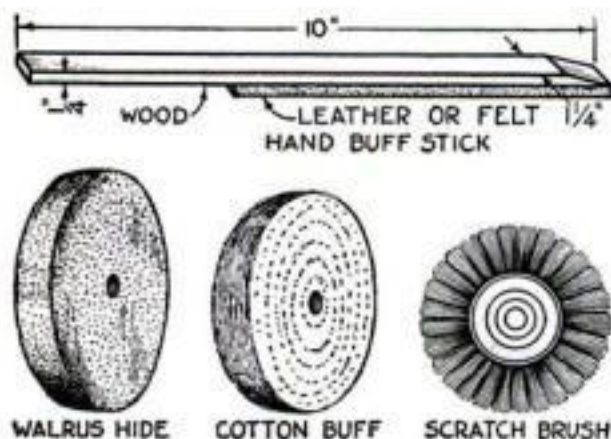

Fig. 5. How hand buff sticks are made, and three common types of wheels used for polishing.
*Machine polishing* requires the use of a polishing head, which is an essential part of the metal worker's shop equipment. There are polishing wheels and buffs (Fig. 5) of many kinds and shapes. Roughly, these may be divided into three classes: leather wheels for the first polishings, cotton and buff wheels for the final polishings, and brush wheels for scratch brush finishing.
The coffee table, Fig. 5, is a typical example of the use of spiral turning in furniture construction. The shaped stretchers cross each other and are joined with a cross-lap joint.